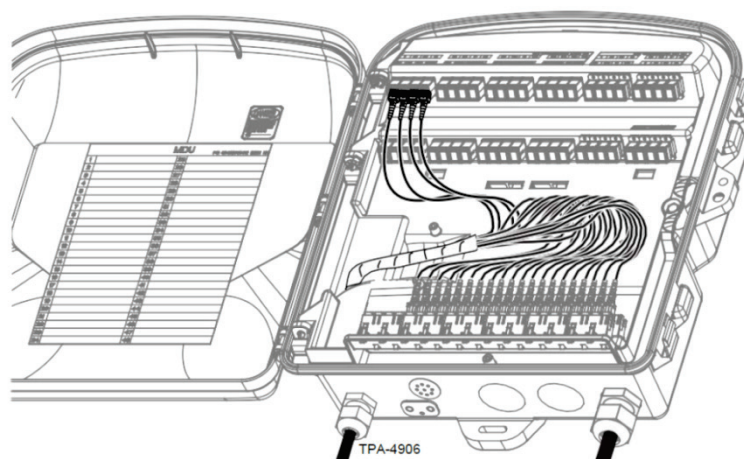

Figure 10
Step 1 Select the appropriate connector from the parking area (Figure 10)
Step 4	Record the connector terminations on the identification label inside the front cover (Figure 10) as they are made.